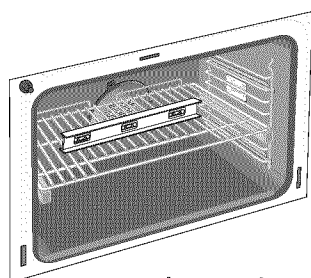

Figure 13
3. Check if the range is level by installing an oven rack in the center of the oven and placing a level on the rack (Figure 13).